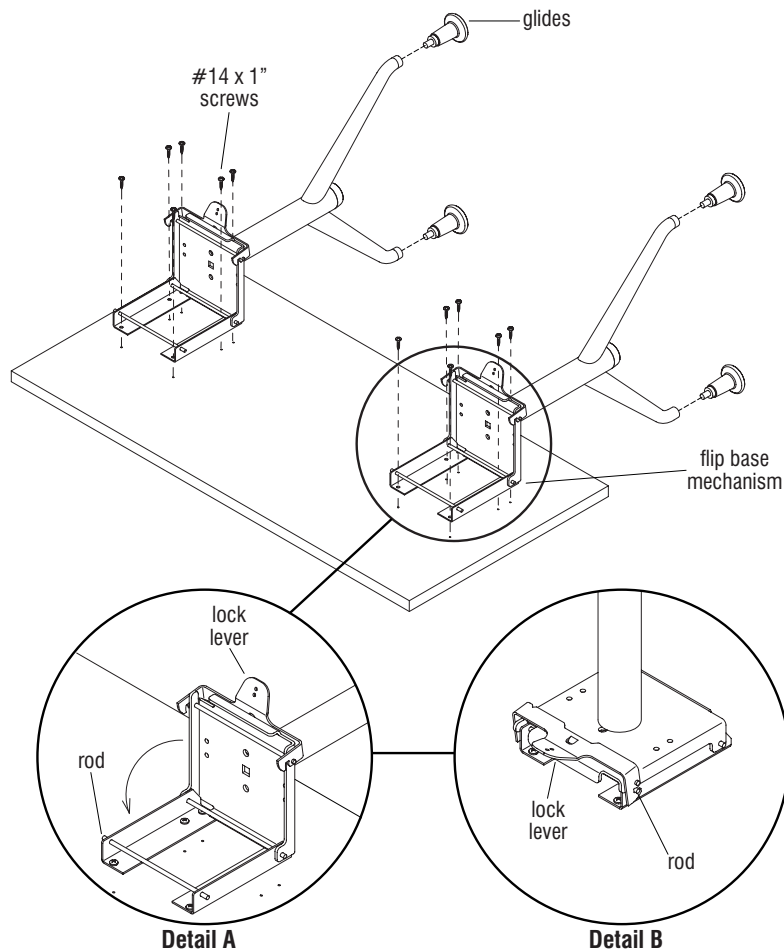

Figure 1
3. Unlock and open flip base mechanisms, position base assemblies on underside of table top, aligning holes in base assemblies with pre-drilled holes in table top. Attach each base to the top using four #14 x 1" screws in the four front holes (Figure 1 & Detail A).
5. Finally, insert and tighten two #14 x 1" screws to the back of bases, Insert glides into base feet and stand table upright (Figure 1).